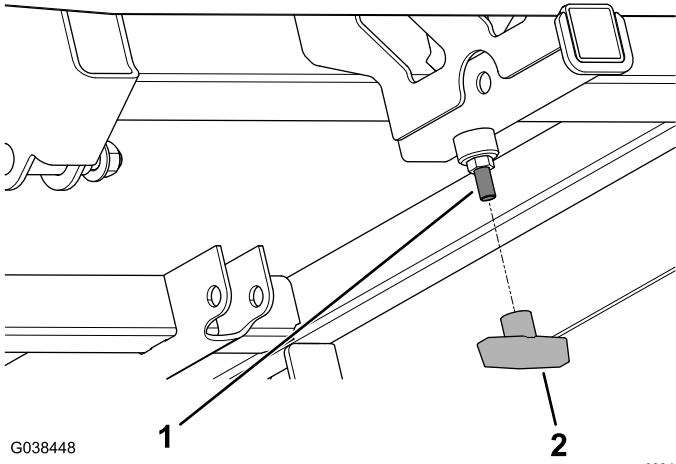

Figure 9
7. Install the T handle onto the button-head screw (Figure 9).